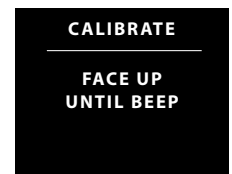
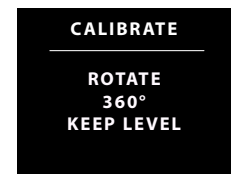

Fig. 88B - AFTER BEEP (turn unit right side up)
Fig. 88C - TO START
- > Turn the unit over (face down) until it beeps, then turn it over (face up) until it beeps (Fig. 88B), after which a screen appears displaying the graphics CALIBRATE with ROTATE 360° KEEP LEVEL (Fig. 88C).